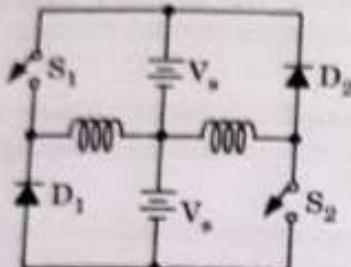

Fig. 3.6.3.
1. In the inverter circuit of Fig. 3.6.3, two DC sources, each of voltage V_s , are required. Each phase needs one switch and one diode.
5. The circuit of Fig. 3.6.3 is so arranged that phase 2 is connected opposite to phase 1. In other words, phase winding 2 is excited from bottom DC source and regenerates into the upper DC source.
6. It shows that the circuit of Fig. 3.6.3 allows the DC source to discharge and charge equally and the amount of energy delivered by the two voltage sources is almost the same.